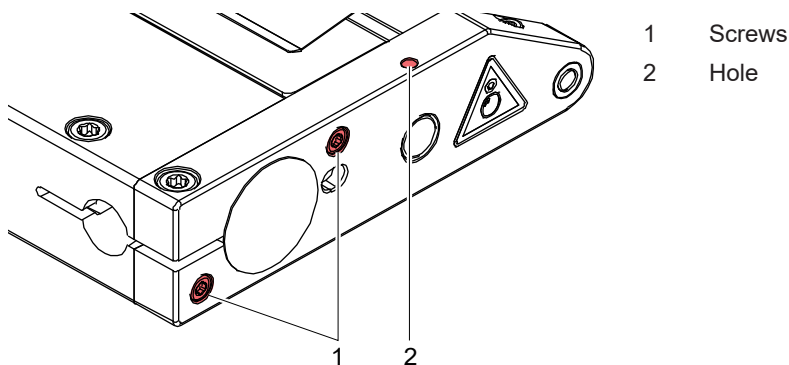
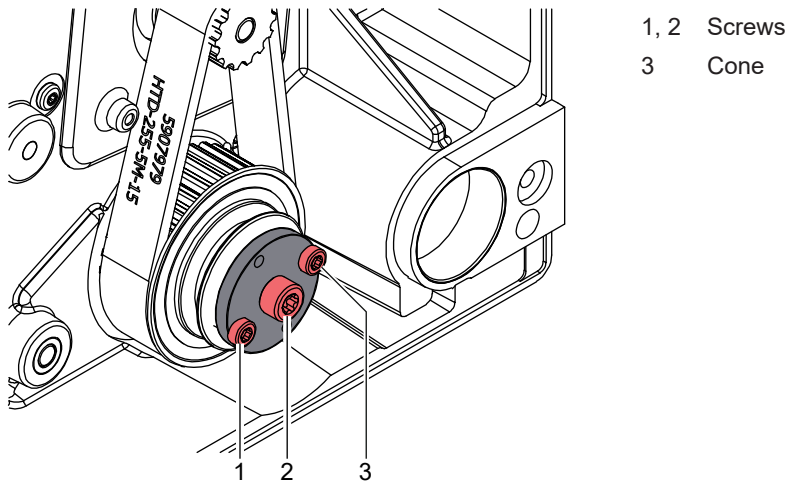

Figure 13 Locking the drive roller
Figure 14 Removing the cone
- ▶ Remove the tool from the hole (▷ Figure 13/2).
- ▶ Loosen the screw (2).
- ▶ Take the bar (1) with the drive roller (3) off the device.
- ▶ Pull the drive roller (2) out of the bar (1).
- ▶ Install the new drive roller in reverse order. Tighten the screw (▷ Figure 14/2) to 15 Nm.